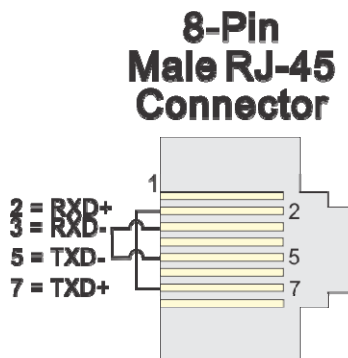

Figure 5-23. RS-485 Loop-back Plug
- Port 3 (RS-485) uses an 8-pin male RJ-45 loop-back plug (shown in *Figure 5-23*).